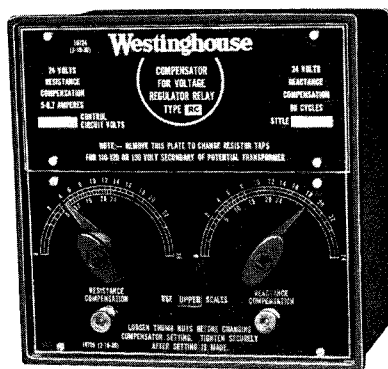
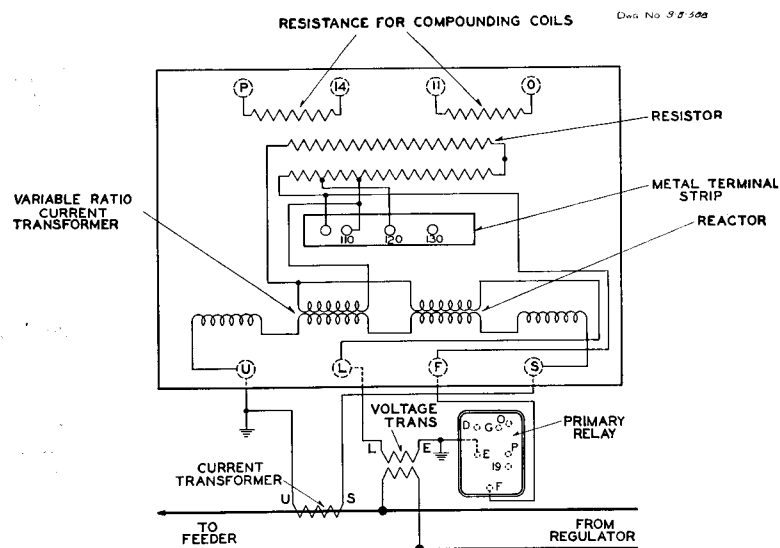

FIG. 11—TYPE RC COMPENSATOR
FIG. 12—DIAGRAM OF CONNECTIONS FOR TYPE RC COMPENSATOR
66. The Type RC compensator is shown in Fig. 11. Diagram Fig. 12 shows the internal connections and method of connecting to the feeder. The compensator consists essentially of an adjustable reactance and an adjustable resistance voltage.